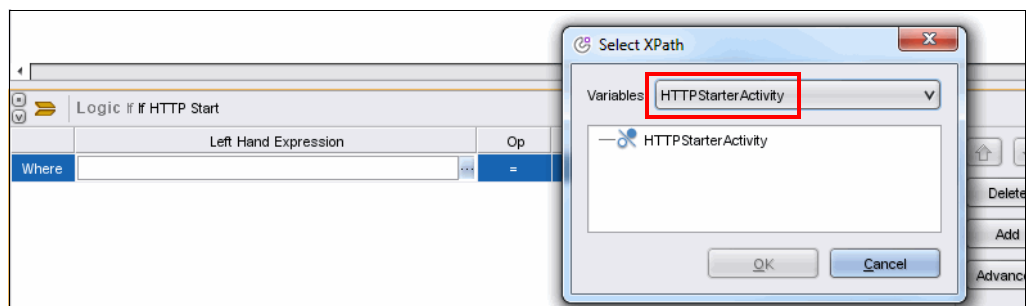

Figure 11-31 Setting of Left Hand Expression for If activity
- c. Select **HTTPStarterActivity** in the drop-down list shown in Figure 11-31. Select the variable **HTTPStarterActivity**, and click **OK**.